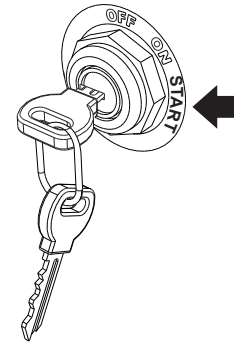

Figure 20. Engine Ignition Key
8. Turn the engine ignition key (Figure 20) to the **START** position and hold it until the engine starts. When engine starts, release the key, allowing it to return to the **ON** position.